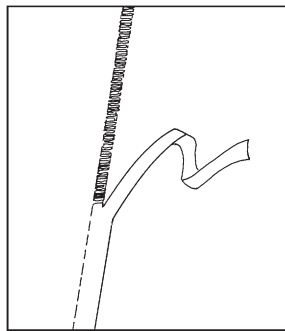

Fig. 24-12
- Serge along the hemline with the garment right side up, trimming off the excess as you stitch. (Fig. 24-12) It's important to stitch smoothly and evenly since this is the edge that will show on the finished garment.